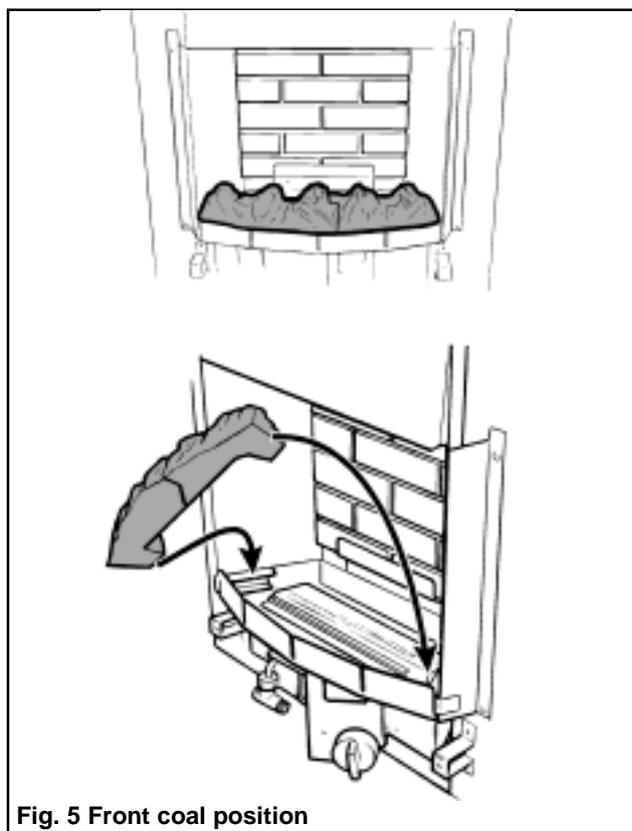

Fig. 5 Front coal position
2. Place the two halves of the front base coal in the burner compartment so that they rest on the ledges at the sides and front. Pull the coals forward so that they are immediately behind the front rim of the burner compartment (See figure 5).